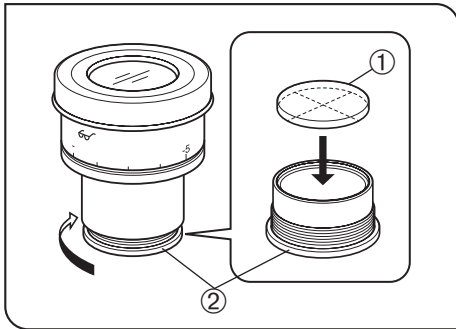

Fig. 33
3 Using the Eyepiece Micrometer Disk (Fig. 33)
Following Fig. 33, turn the built-in micrometer-mounting frame ② counterclockwise to remove it from the eyepiece and place a micrometer disk ①.